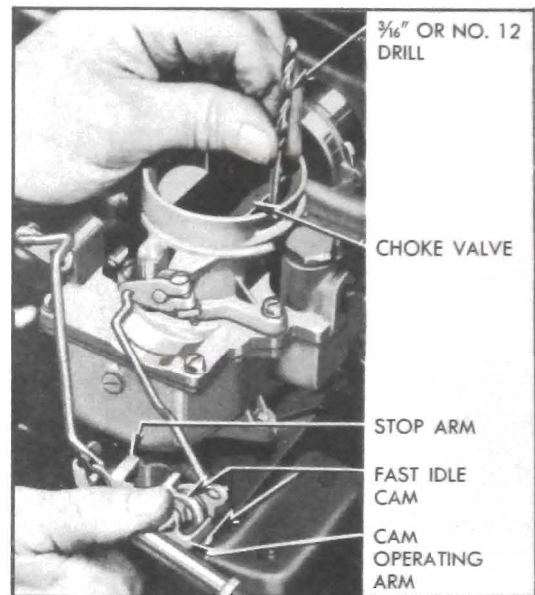

Figure 3-29—Checking Carter Choke Unloader Adjustment
If the engine becomes flooded for any reason, the choke valve can be partially opened by depressing accelerator pedal to the full extent of its travel. This causes a tongue or arm on the throttle lever to contact and rotate the fast idle cam, which forces the choke valve open. See figure 3-29.
4. Open throttle until stop arm on throttle shaft lever contacts boss on body flange, then check clearance between upper edge of choke valve and wall of air horn, using a  $\frac{3}{16}$ " gauge (T109-28 or No. 12 drill). See figure 3-29.